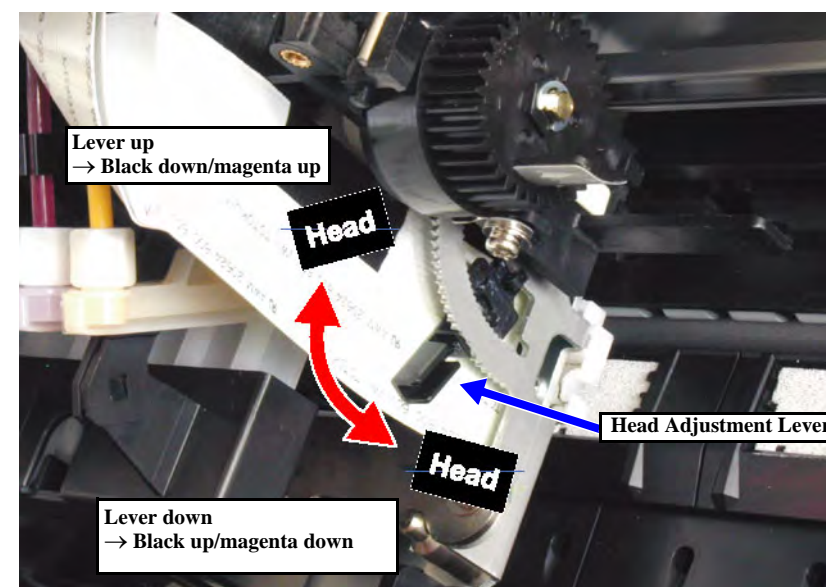

Figure 5-46. Head Slant Adjustment 2/2
3. Move the Head Adjustment Lever in consideration of the output pattern. (See Figure 5-46)